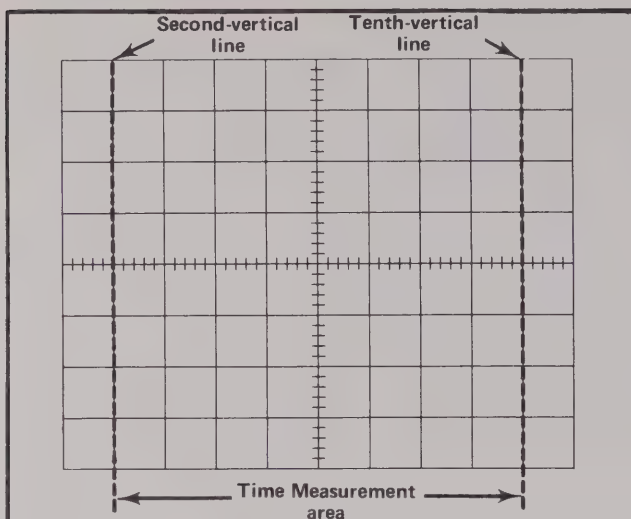

Fig. 1-8. Area of graticule used for accurate time measurements.
When making time measurements from the graticule, the center eight divisions provide the most linear time measurements (see Fig. 1-8). Position the start of the timing area to the second vertical line and adjust the TIME/DIV OR DLY TIME switch to the
5. Set the TIME/DIV OR DLY TIME switch to the fastest sweep rate that displays less than eight divisions between the time measurement points (see topic entitled "Time Measurements" and Fig. 1-8).